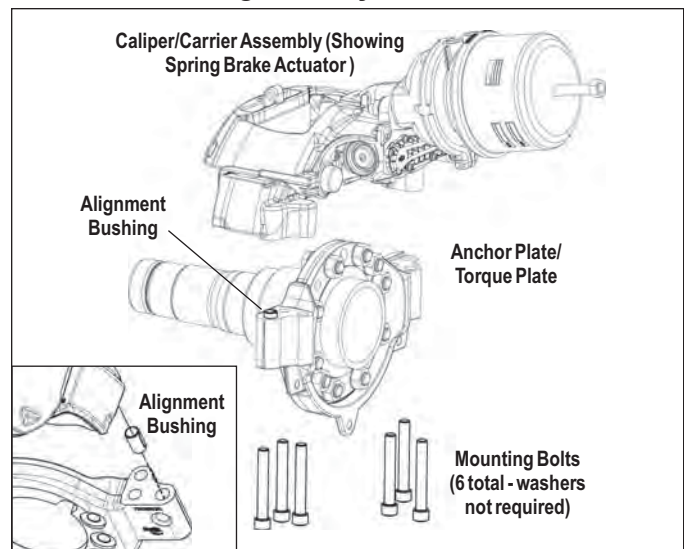

FIGURE 41 - VERTICAL MOUNT CALIPER/CARRIER
- 5.3.4 See Figure 41. Supporting the air disc brake by necessary means, remove the six (6) mounting bolts/washers and discard. Note: Bendix strongly recommends that during re-assembly these bolts are replaced - see your vehicle manufacturer for replacement hardware. Lift the caliper up off the anchor plate.